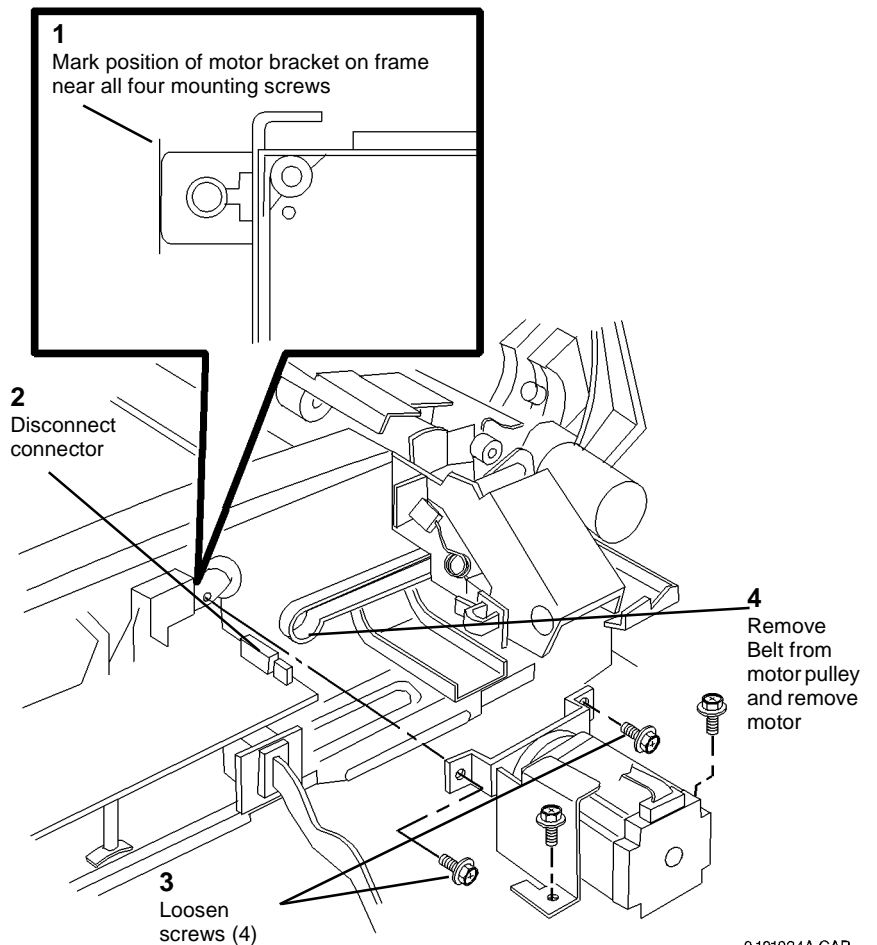

Figure 1 Removing DADF Belt Motor Assembly
2. Remove DADF Belt Motor Assembly (Figure 1).